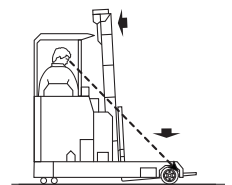

Figure 18
- (f) When the fork arms are clear of the stack, reapply the parking brake if the reach truck has been moved, selecting neutral if applicable. Lower the fork arms to just above ground level, apply a slight backtilt, and check the way is clear before moving off (Figure 18).